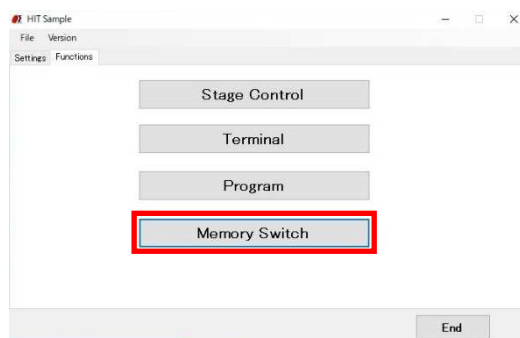

Figure 2-3-2 : Choose a Memory Switch
**⑪ Activate SGSample.****⑫ Choose a Memory Switch. (Figure 2-3-2)****⑬ Choose a Upload Memory Switch. (Figure 2-3-3)****⑭ Check IP adress at the bottom right of the screen.**